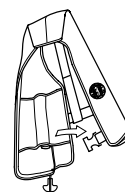

Fig. 1b
- 1) Undo the Velcro™ tabs on the wearer's right-hand side of the collar to expose the inflator (Fig. 1b).